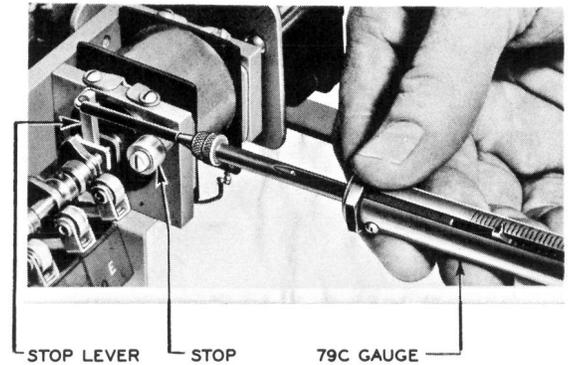

Fig. 6 – Method of Checking Motor Torque
**2.14 Motor Torque:** Fig. 6 — With the shaft rotating under control of the motor energized on 22 volts, the motor shall not stall when a pressure of